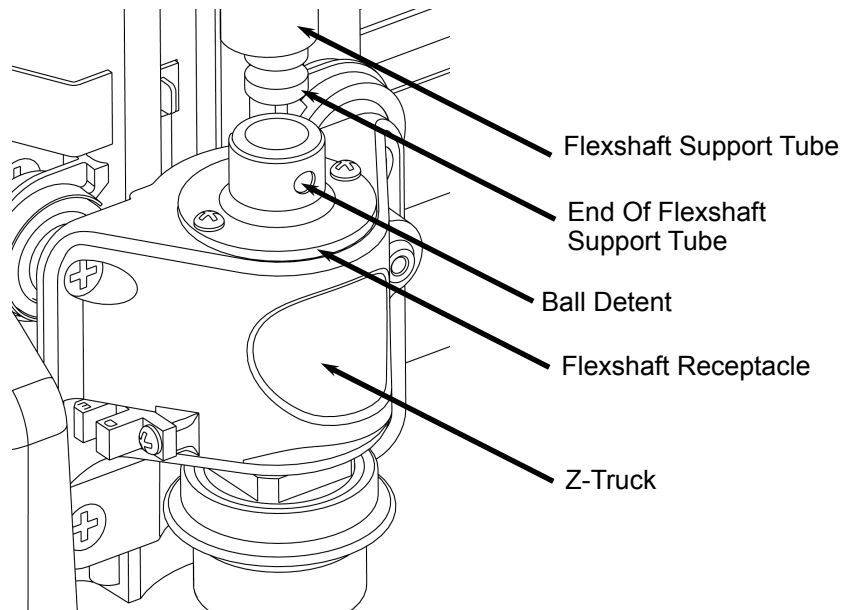

FIGURE 24: VIEW OF THE FLEXSHAFT CONNECTION TO THE Z-TRUCK
2. **Detach the flexshaft from the top of the Z-truck:** The flexshaft assembly is retained by a ball detent located in the flexshaft receptacle (See Figure 24). Firmly grasp the flexshaft support tube while reaching under the clear front cover with your other hand to grab the Z-truck. Pull up firmly on the flexshaft support tube and twist slightly while bracing the Z-truck. **DO NOT PULL ON THE SHEATH.** The flexshaft will pop out of the detent. Wrap the end of the flexshaft in tape so that the core will not fall out and lay the detached flexshaft end to the side.